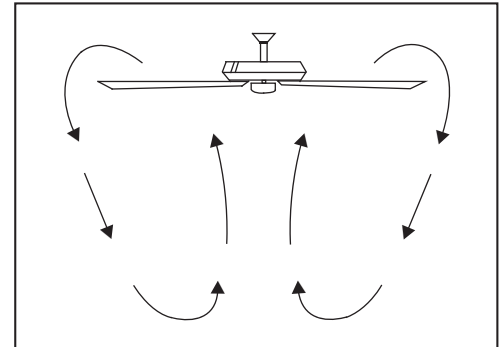

Figure 23
**Cool weather** - (Clockwise direction) An upward airflow moves warm air off the ceiling area. (Fig. 23) This allows you to set your heating unit on a lower setting without affecting your comfort.